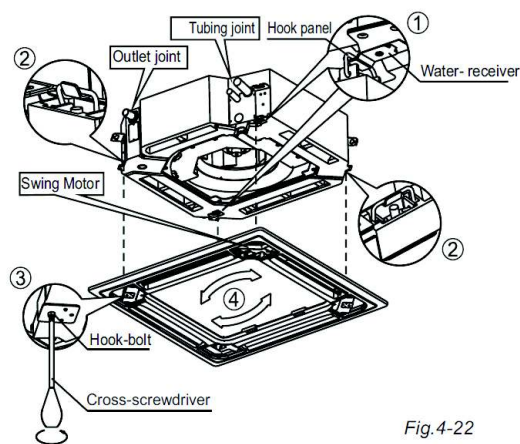

Fig. 4-22
- Align the swing motor on the panel to the tubing joints of the body properly. (Refer to Fig.4-22)